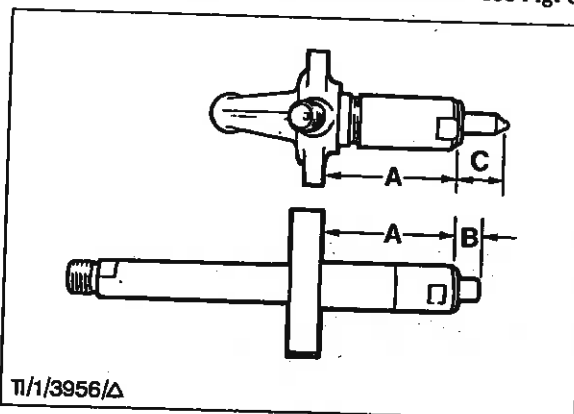

Fig. 8 - Assembling Tester Components
a) That the overall length of the assembly (from clamping plate to end of adaptor) is approximately the same as the injector body - see Fig. 8.
b) That the length of stem protruding from the adaptor is less than the length of the injector nozzle - see Fig. 8.